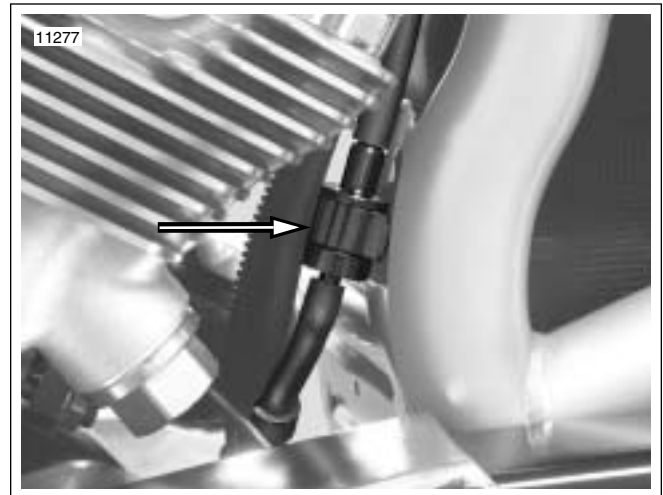

Figure 1-70. Vapor Valve (VRSCA shown)
- Remove p-clamp (2) retaining radiator hoses.
- Remove front (3) and rear (4) breather hoses.
- Remove main harness cable straps (5) along left side of frame.
- See Figure 1-70. Remove vapor valve from t-stud from VRSCA models only.